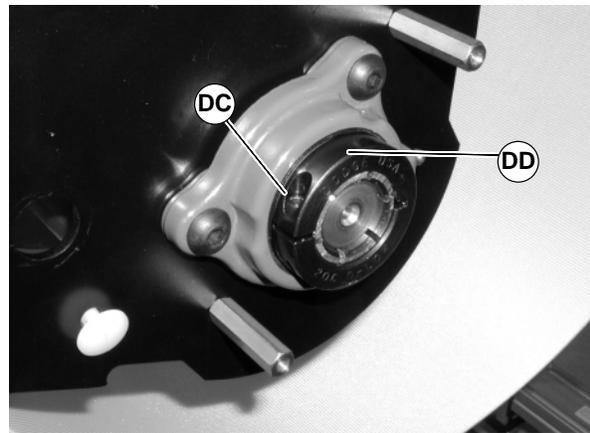

Figure 109
3. Loosen clamp screw (DC of Figure 109) and remove bearing collar (DD).
7. Reinstall bearing collar (DD of Figure 109). Tighten clamp screw (DC) to 95 in-lbs (11 N-m).